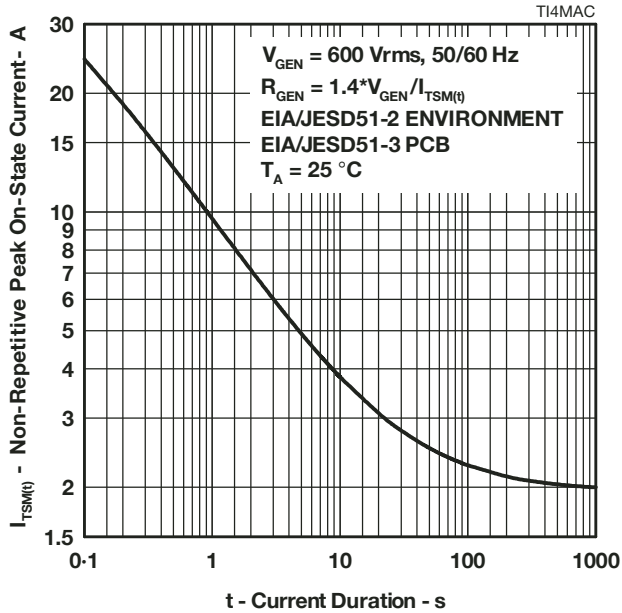

Figure 9.
5. EIA/JESD51-2 environment and EIA/JESD51-3 PCB with standard footprint dimensions connected with 5 A rated printed wiring track widths. See Figure 9 for the current ratings at other durations. Derate current values at $-0.61\% / ^\circ\text{C}$ for ambient temperatures above 25°C .
The protector can withstand currents applied for times not exceeding those shown in Figure 9. Currents that exceed these times must be terminated or reduced to avoid protector failure. Fuses, PTC (Positive Temperature Coefficient) thermistors and fusible resistors are overcurrent protection devices which can be used to reduce the current flow. Protective fuses may range from a few hundred milliamperes to one ampere. In some cases, it may be necessary to add some extra series resistance to prevent the fuse opening during impulse testing. The current versus time characteristic of the overcurrent protector must be below the line shown in Figure 9. In some cases, there may be a further time limit imposed by the test standard (e.g. UL 1459 wiring simulator failure).